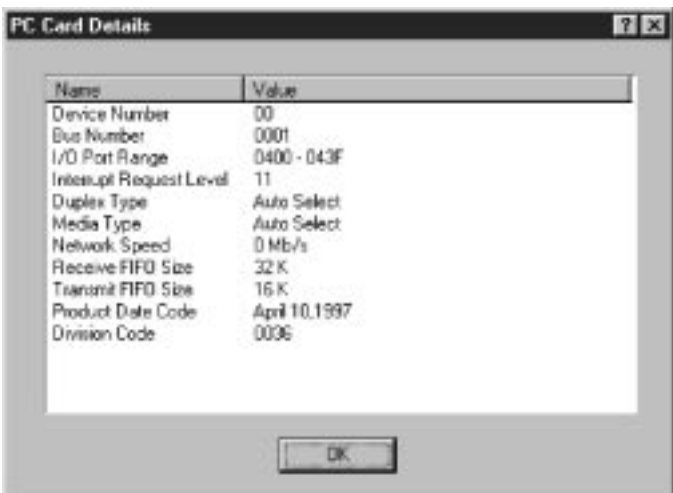

Figure 4-2 PC Card Details Screen
- 3 Click *PC Card Details* to display the PC Card Details screen shown in Figure 4-2.